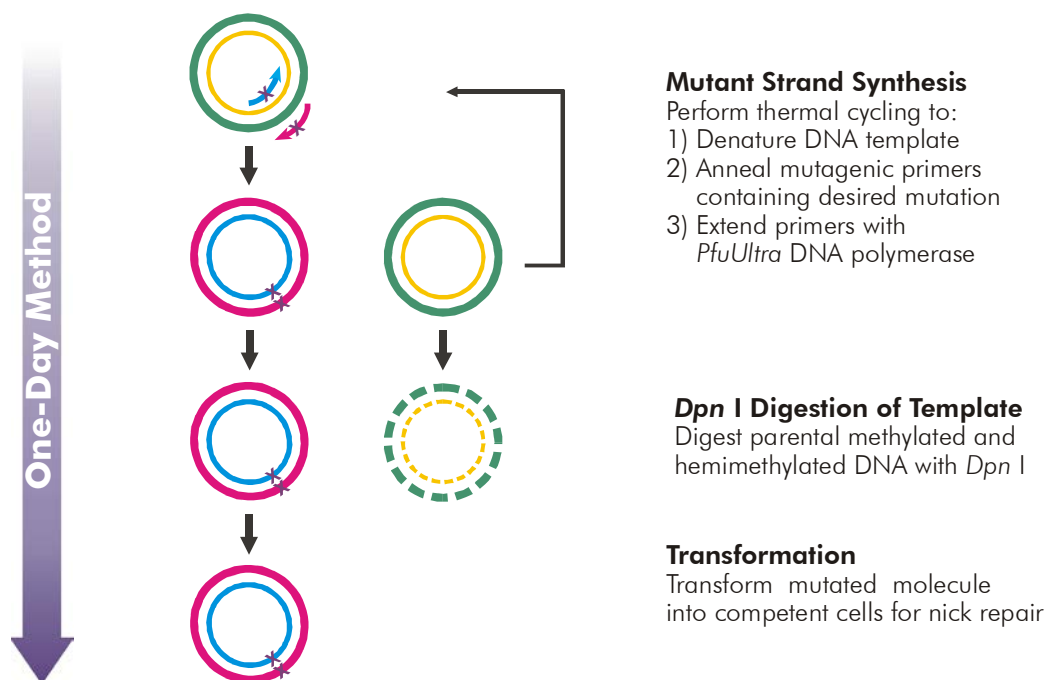

FIGURE 1 Overview of the QuikChange II site-directed mutagenesis method.
In vitro site-directed mutagenesis is an invaluable technique for characterizing the dynamic, complex relationships between protein structure and function, for studying gene expression elements, and for carrying out vector modification. Several approaches to this technique have been published, but these methods generally require single-stranded DNA (ssDNA) as the template¹⁻⁴ and are labor intensive or technically difficult. Our QuikChange II Site-Directed Mutagenesis Kit* allows site-specific mutation in virtually any double-stranded plasmid, thus eliminating the need for subcloning and for ssDNA rescue.⁵ In addition, the QuikChange II site-directed mutagenesis kit does not require specialized vectors, unique restriction sites, multiple transformations or in vitro methylation treatment steps. The rapid three-step procedure generates mutants with greater than 80% efficiency in a single reaction (see Figure 1). The protocol is simple and uses either miniprep plasmid DNA or cesium-chloride-purified DNA. For long (~8 kb) or difficult targets, we offer the QuikChange II XL Site Directed Mutagenesis Kits (Catalog #200521 and #200522).
The QuikChange II site-directed mutagenesis kit is used to make point mutations, replace amino acids, and delete or insert single or multiple adjacent amino acids. The QuikChange II site-directed mutagenesis method is performed using *PfuUltra* high-fidelity (HF) DNA polymerase** for mutagenic primer-directed replication of both plasmid strands with the highest fidelity.[¶] The basic procedure utilizes a supercoiled double-stranded DNA (dsDNA) vector with an insert of interest and two synthetic oligonucleotide primers, both containing the desired mutation (see Figure 1). The oligonucleotide primers, each complementary to opposite strands of the vector, are extended during temperature cycling by *PfuUltra* HF DNA polymerase, without primer displacement. Extension of the oligonucleotide primers generates a mutated plasmid containing staggered nicks. Following temperature cycling, the product is treated with *Dpn* I. The *Dpn* I endonuclease (target sequence: 5'-Gm⁶ATC-3') is specific for methylated and hemimethylated DNA and is used to digest the parental DNA template and to select for mutation-containing synthesized DNA.⁶ (DNA isolated from almost all *E. coli* strains is dam methylated and therefore susceptible to *Dpn* I digestion.) The nicked vector DNA containing the desired mutations is then transformed into XL1-Blue supercompetent cells.